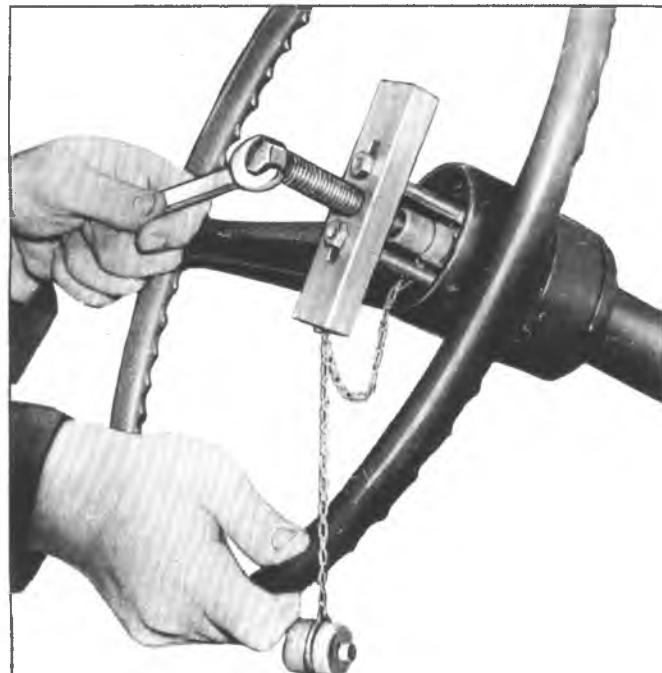

Fig. 3B4-21—Steering Wheel Removal
4. Using tool J-2927, thread puller anchor screws into holes provided on steering wheel. See Fig. 3B4-21. Turn center bolt of tool clockwise to remove wheel.